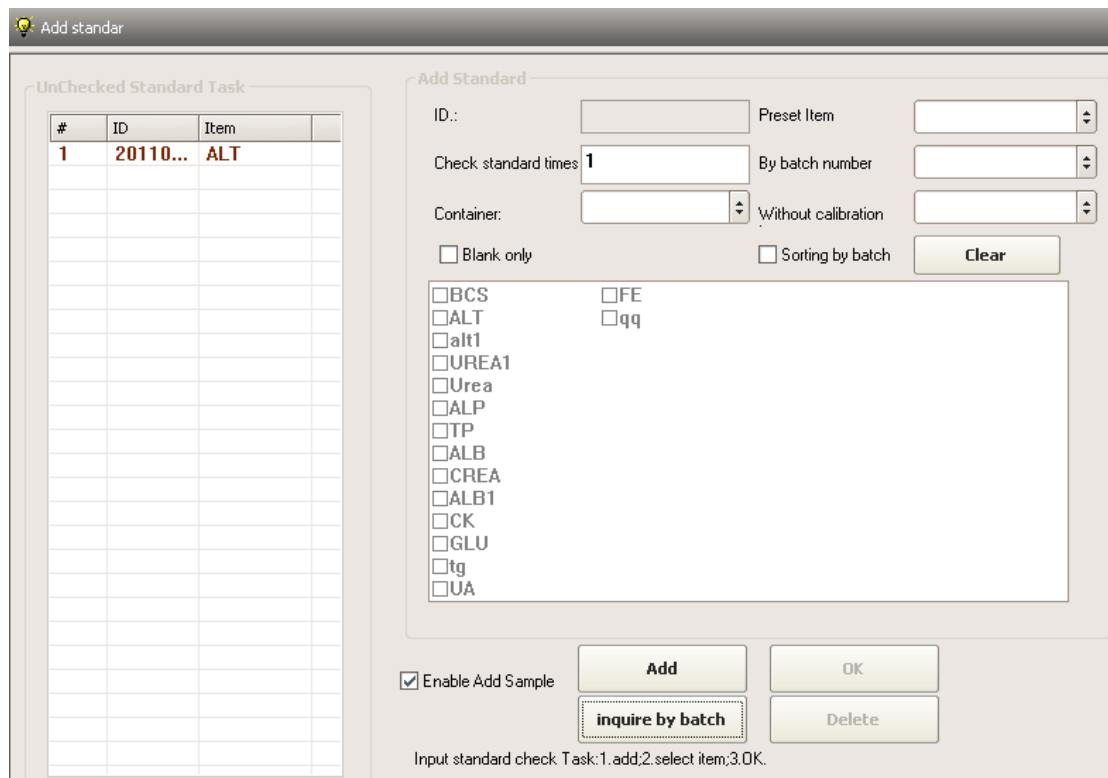

Figure 5-16
3. In the adding calibration interface, choose related batch number, then choose "by batch number" option, then choose the corresponding project in the batch number, as shown in figure 5-16.